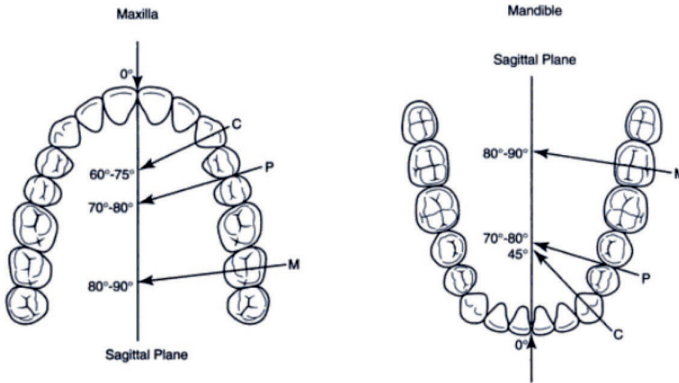
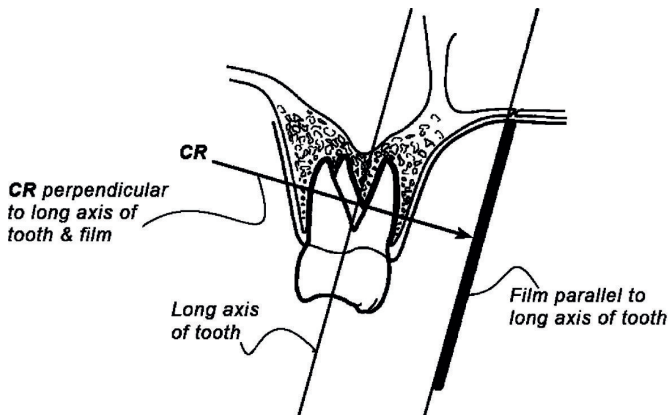

Figure 7 : Horizontal Angulation
Figure 8 : Paralleling Technique
2. Introduce the film, plate or sensor into the patient’s mouth according to the chosen technique as shown by “Figure 7” and “Figure 8” (bisecting or parallel).